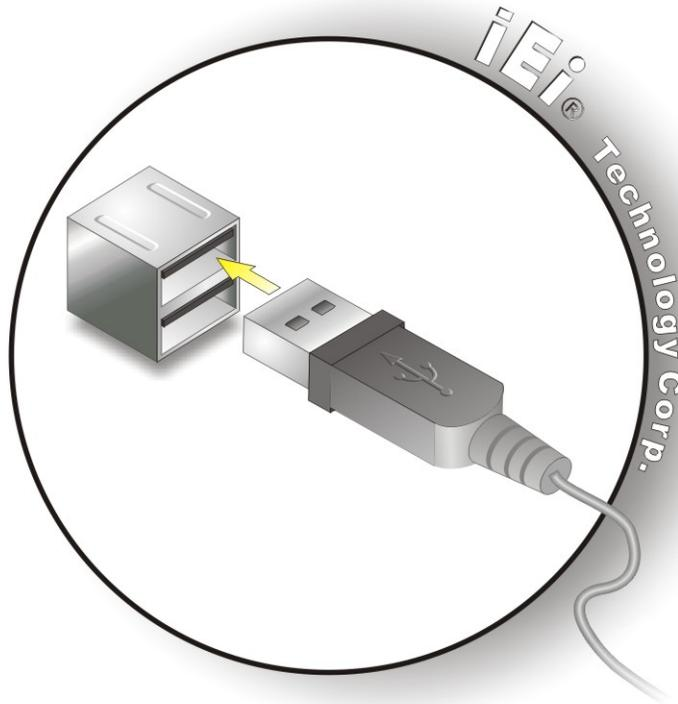

Figure 4-36: USB Device Connection
Step 2: **Align the connectors.** Align the USB device connector with one of the connectors on the bottom panel. See **Figure 4-36**.